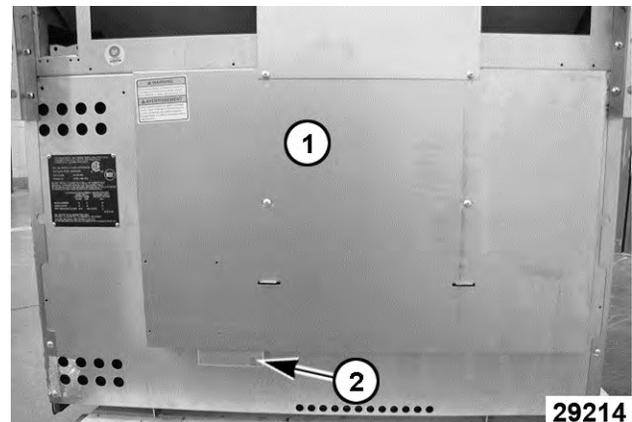

Fig. 13
1. Remove the rear flue panel (1, Fig. 13).
2. Remove element cover (2, Fig. 13).